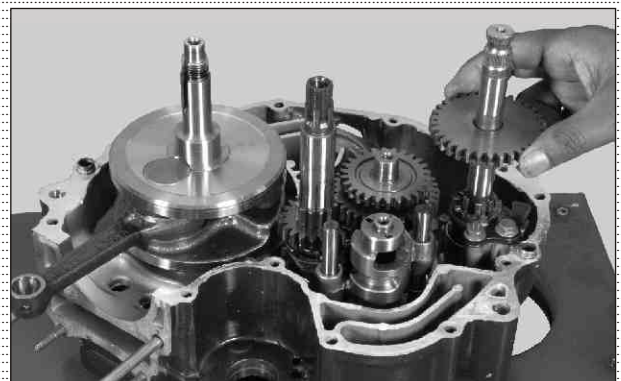

Fig. 3.97
- Take out woodruff key. (Fig. 3.97)
- Take out gear kick starter drive from the shaft kick starter. (Fig. 3.97)